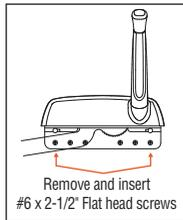

fig. 23
- To fasten the sill, use two #6 x 2-1/2 Phillips Flat head screws. Remove two screws from each side of the operator bracket. Place a small amount of silicone caulk in the screw holes and insert screws through those holes into the rough opening. (**fig. 23**)